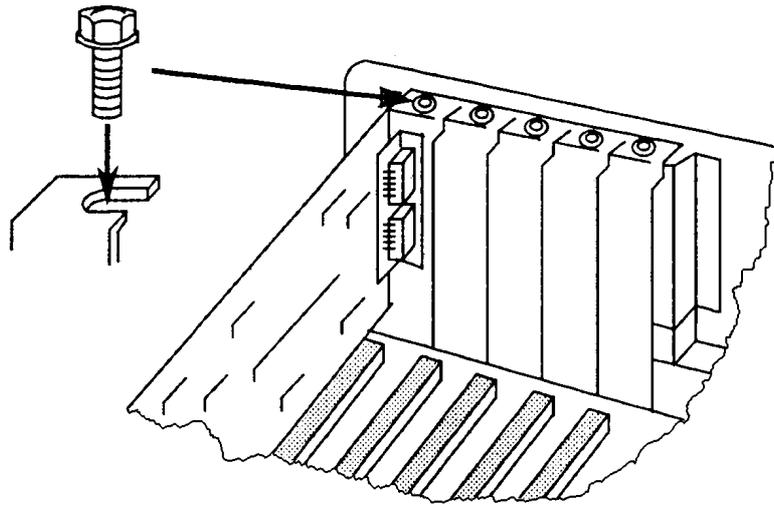

Figure 2.13 *Fitting the interface card retaining screw.*
7. Holding the card by its corners, press it firmly into the expansion slot prepared in step 5. Align the 'U' shaped slot in the card retaining bracket with the hole in the rear panel of the PC (Figure 2.13). Fit the securing screw, which should be snug against the inside of the 'U'. Tighten the screw.